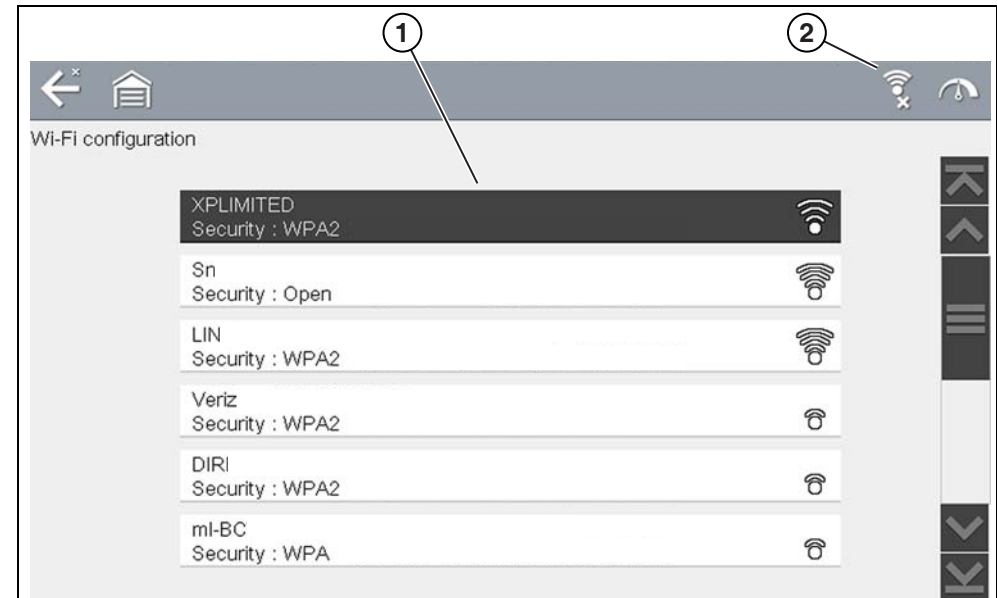

Figure 13-2 Wi-Fi Configuration Screen
4. Select your network. Use the scroll feature to show all active connections (Figure 13-2).